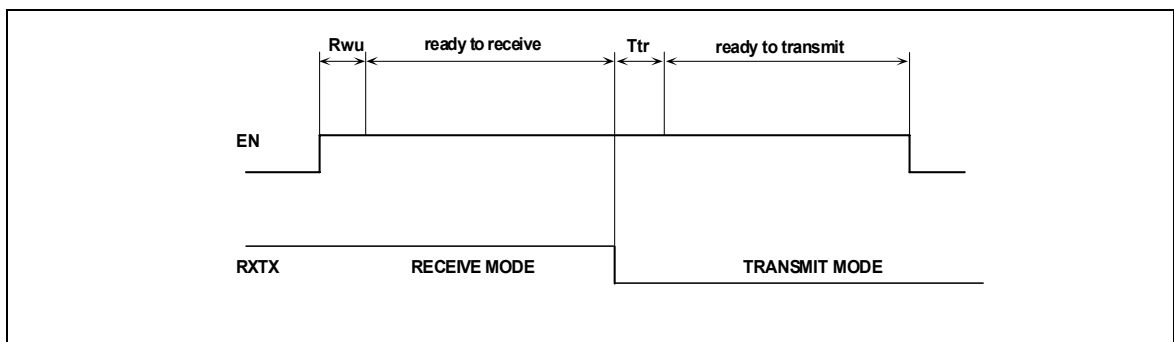

Figure 4: timing diagram for RXTX and EN control pins
RXTX (receive/transmit) and EN (chip enable) are activated when the control bit (A13) is set to zero. In this mode, the XE1201A can be switched on, switched off and set to the transmit or receive mode with pin 1 (EN) and 15 (RXTX) as explained in table 11 and figure 4.